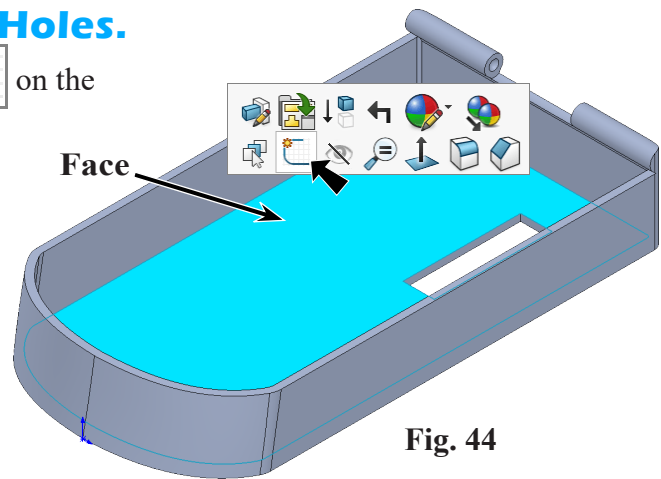
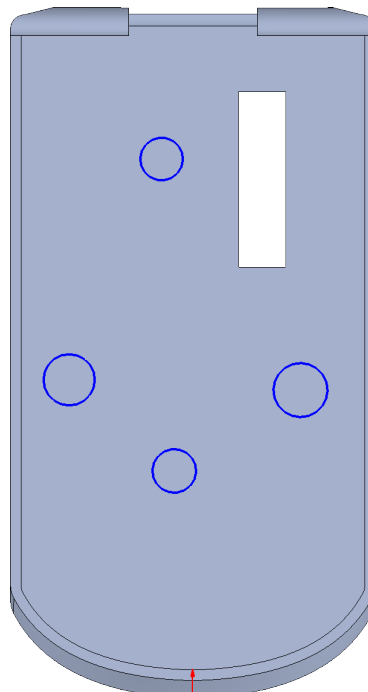

Fig. 44
Fig. 45
Step 1. Click the **top face** and click **Sketch**  on the context toolbar, **Fig. 44**.
Step 3. Click **Circle**  (S) on the Sketch toolbar.
Step 4. Sketch 4 circles, **Fig. 45**.